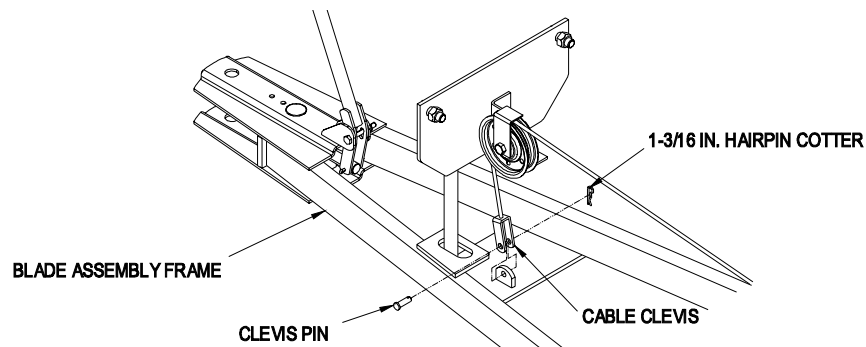

Figure 9
4. Connect the cable clevis to the blade assembly frame with a clevis pin and hairpin cotter ($1-3/16$ in.) (Fig. 9).